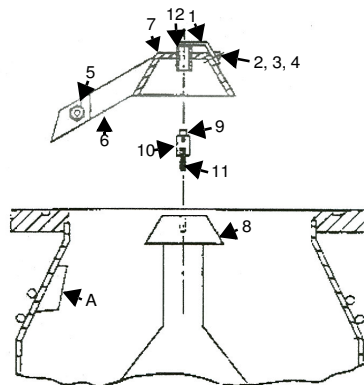

Figure 3-1 VHS4 and VHS-6 Cold Cap Removal/Installation
1. Remove the spring (1) (Figure 3-1) attached by round head screw (2), a flat washer (3) and a lock washer (4). The screw types are:
2. Loosen the nut (5) holding the cold cap bracket (6) to the copper bar (A) and remove the cold cap (7) from the top of the jet cap (8).
3. Unscrew the no. 8-32x1/4 socket head cap screw (9) from the top of the ceramic standoff (10).
4. Remove the ceramic standoff (10) and the no. 8-32x1/2 stud (11).